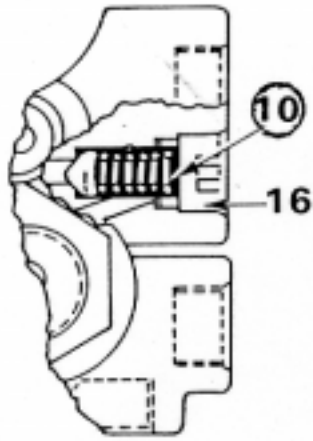

Figure 3
2. Remove and discard the spring (9) and the piston assembly (8).
3. Note and mark the position of the control piston cover (12) on the valve body. Remove the four 1/4" x 20 hex head cap screws (13) and cover. Discard the sealing ring (4). Save special identification tag.
4. Remove the control piston (14) and spring (3). Remove and discard O-Rings (1) and (2) and spring (3).
5. Remove the two socket head pipe plugs (16) and remove and discard the two check valve spring assemblies (10). (See Fig. 3).